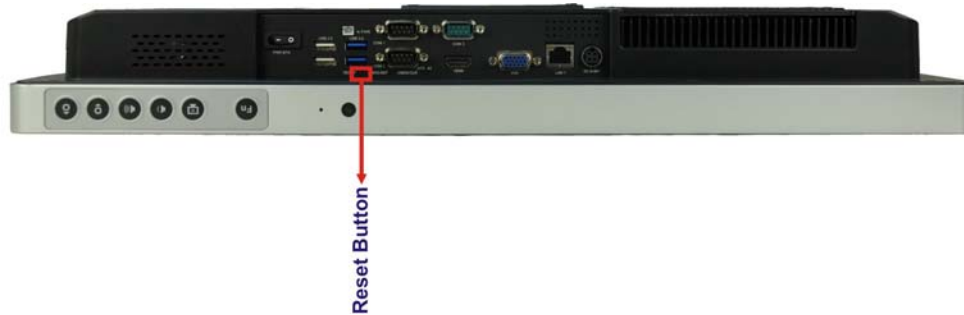

Figure 4-15: Reset Button Location
Step 1: Locate the reset button on the bottom panel (**Figure 4-15**).